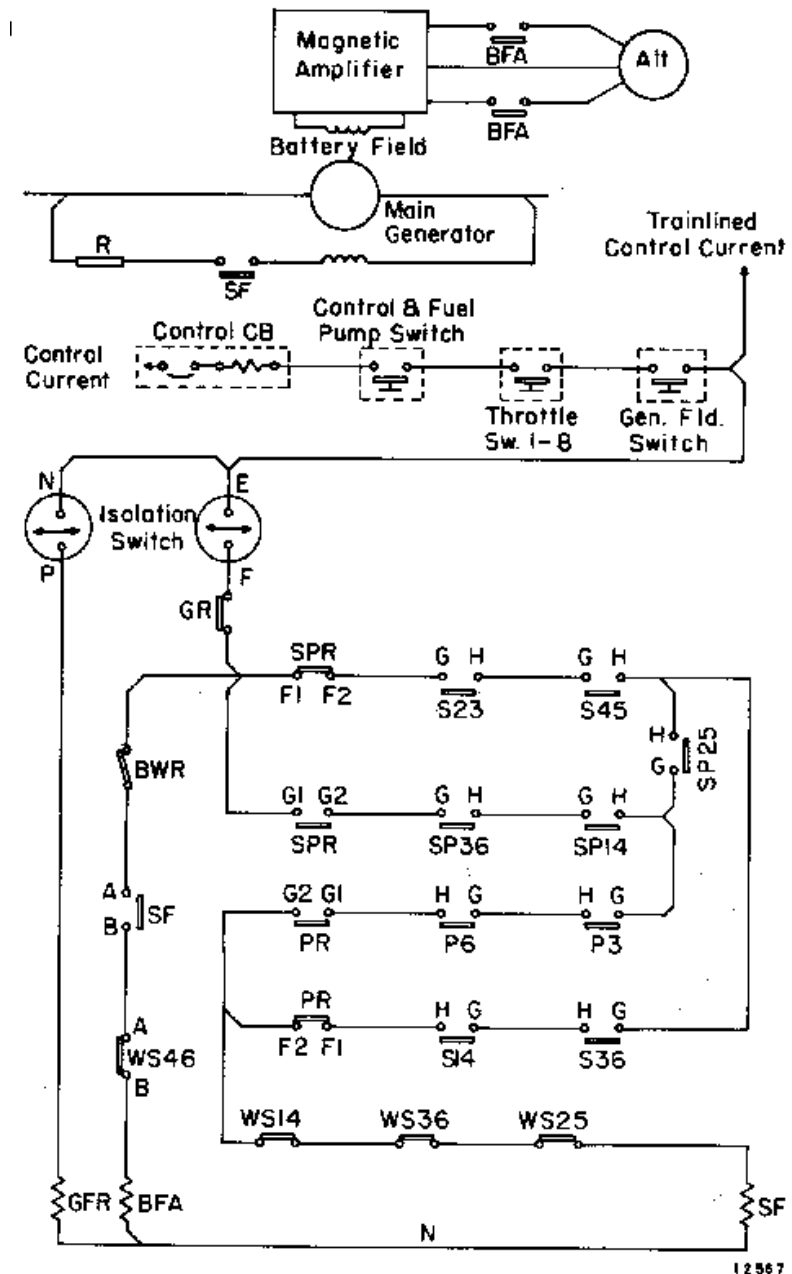

Fig. 6-4 - Generator Field Control Circuits
GENERATOR FIELD EXCITATION CIRCUIT, Fig. 6-4
- h. The above mentioned "S" contactors closing, picks up shunt field contactor SF, and the A-B interlock of SF closes to pick up BFA, Fig. 6-4.